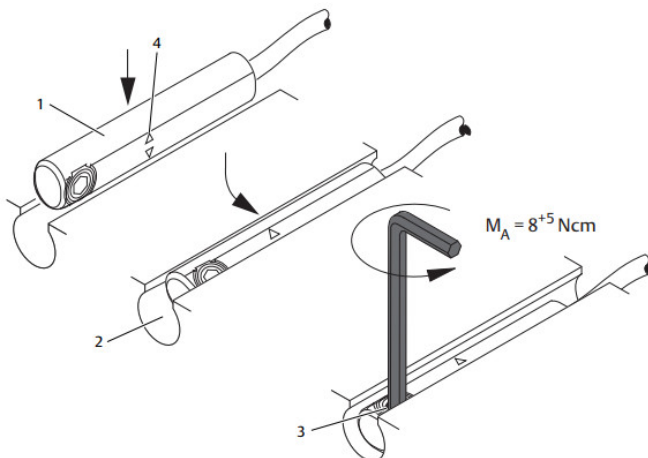

Fig. 1: Mounting the sensor
See g Fig. 1
4. Insert the sensor (1) from above in the C-slot (2), slide the sensor into the C-slot until both LEDs are on simultaneously, and tighten the mounting screw (Tightening torque:  $MA = 8 + 5 \text{ Ncm}$ . See g Fig. 1).